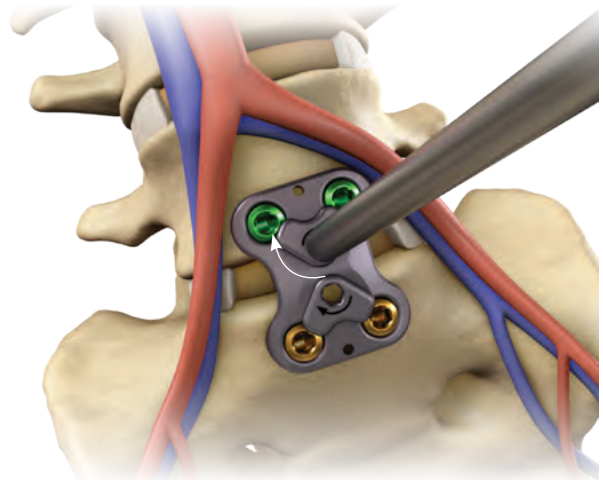

Figure 27:
- Once all bone screws are placed, use the self-retaining screwdriver to rotate the secure-twist cap clockwise to secure it. The cap will tighten and you will be able to visually confirm that the locking cap covers the screws (Figure 27).